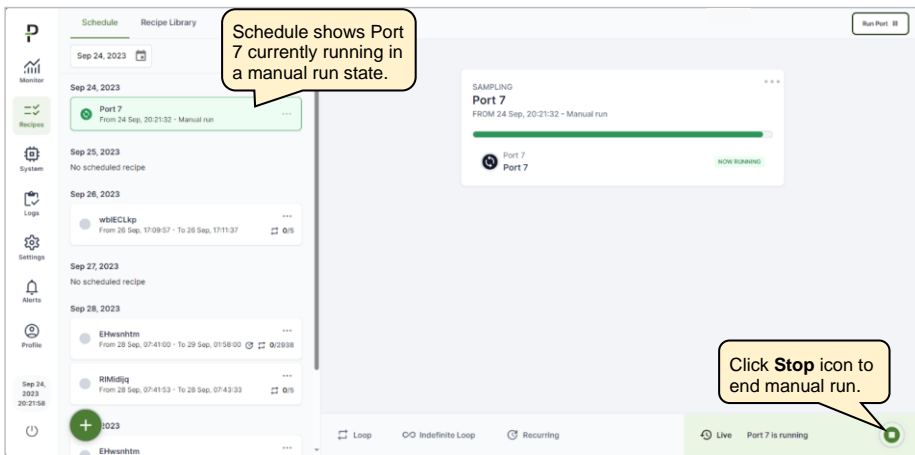

Figure 40: Run Port (Manual Operation – Running)
- Click **Start Manual Run** if you wish to start running **Port 7** or click **Cancel** to abort the Manual Run and allow the current recipe to continue. Figure 40 shows the manual run in progress.
5. The recipe Schedule will remain paused until the manual run is stopped (by clicking the **Stop** button). Figure 40 above shows the schedule page with **Port 7** running manually.